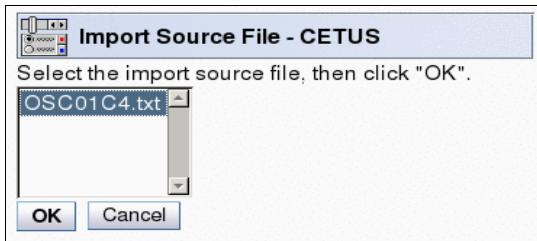

Figure 7-23 Import source file selection
7. The Import Source File window opens. Select the name of the source file you want to import. In our example, we select **OSC01C4.txt** as the source file (Figure 7-23) and click **OK**.